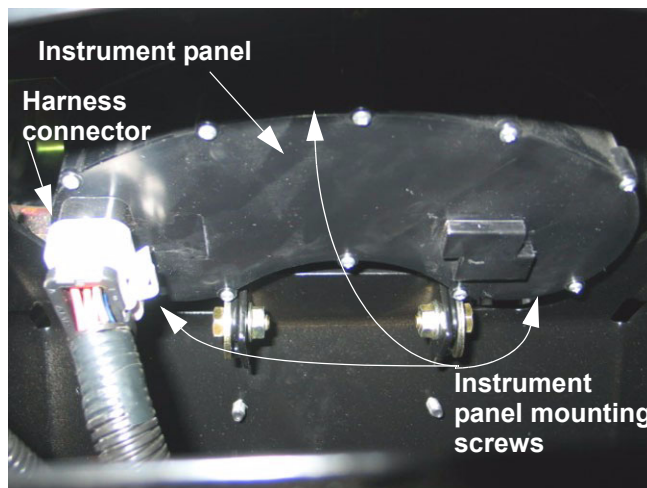

Figure 1.5
- 1.5. Disconnect the wiring harness from the instrument panel. The plug can be reached from under the hood. See Figure 1.5.